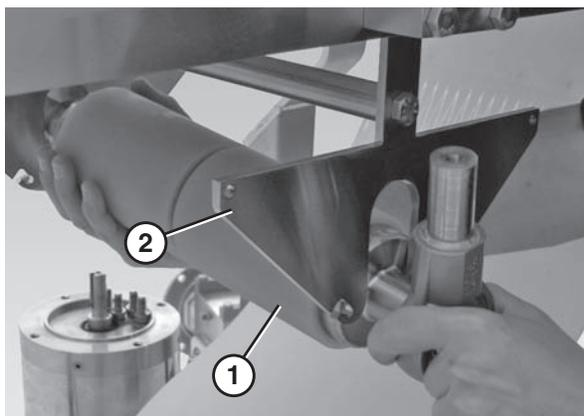

Figure 70
15. Lower the end of the drive shaft spindle (**Figure 70, item 1**) until it is clear of the side plate (**Figure 70, item 2**) and remove it.